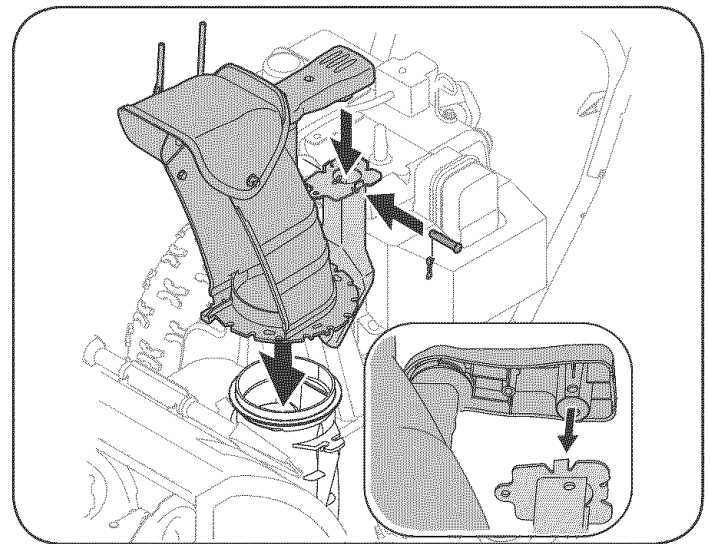

Figure 4
4. Place chute assembly onto chute base and secure chute control assembly to chute support bracket with clevis pin and cotter pin removed earlier. See Figure 4.